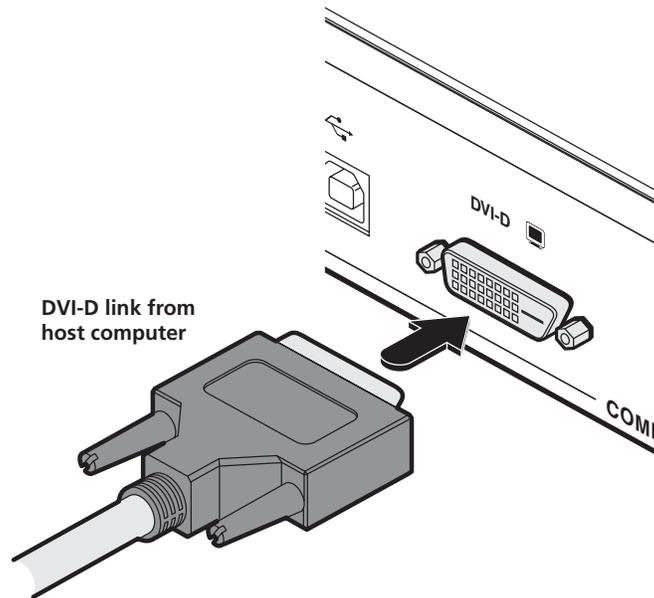

Figure 3-3. Connect the digital video link cable to the DVI-D socket.
- 2 Connect a digital video link cable to the DVI-D socket on the Local unit rear panel. See Figure 3-3.